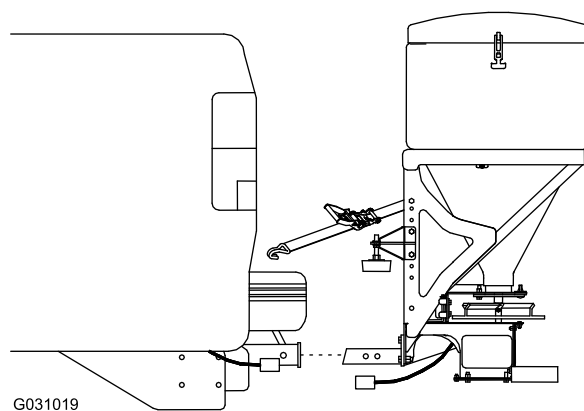

Figure 19
2. Slide the hitch of the spreader into the receiver hitch of your vehicle and line up the second hole on the spreader hitch with the hole in the hitch of your vehicle (Figure 19).